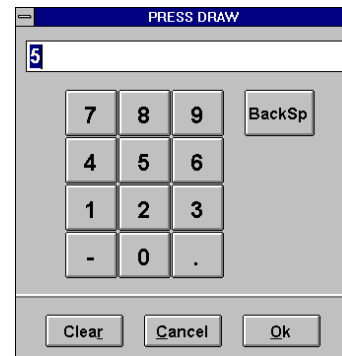

Figure 7-15 Pop-Up Keypad
1. Click the value's cell in the "Next" column. The value is then highlighted and the pop-up keypad (see Figure 7-15) is displayed.